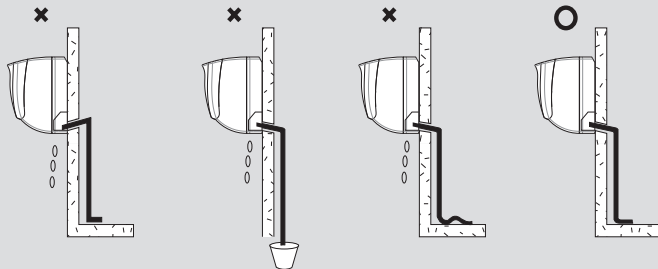

Figure 13
- The recommended bending of the drain hose is shown in Figure 13.